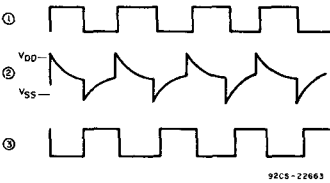

Fig. 2—RC-oscillator operating waveforms.
RCA COS/MOS parts, i.e., CD4007A, CD4001A, CD4011A, etc.) and a single resistor and capacitor. The operating waveforms for this circuit are shown in Fig. 2.
increasing or decreasing with discontinuities equal in magnitude to V_{DD} during the instant of switching. However, since point (2) is protected by a standard input-protection circuit common to COS/MOS devices, the waveform is clamped at one diode voltage drop above V_{DD} and below V_{SS} . (Refer to waveforms in Figs. 2 and A1). The calculations for the period of this multivibrator circuit are shown in Appendix A; the final equation for the period T is